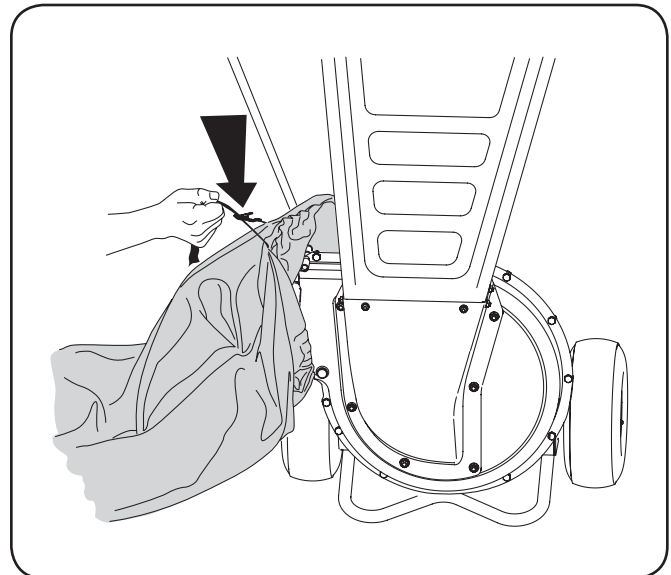

Figure 5-3
2. Squeeze the locking buckle to release the bag's draw-strap before loosening it from the chute deflector. See Fig. 5-3.